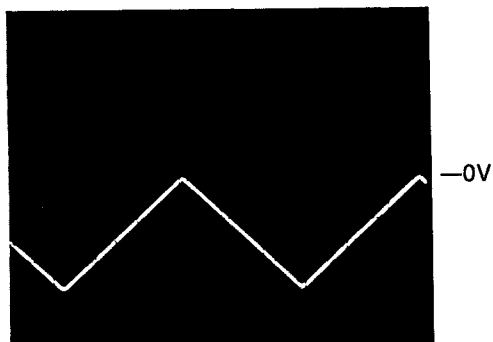

Figure 1
8-140. Ground TP3 on the A1 Motherboard. This places the 5316A in the signature analysis mode. The display will flicker (see paragraph 8-70, step 4.) The A6 Digital-to-Analog Converter is now being programmed to increment through its full voltage range. *Figure 1, 2, and 3* show the output of U2 at pins 1(14) and 7(8), and the front panel TRIGGER LEVEL OUT. Both A and B Channels should be the same.